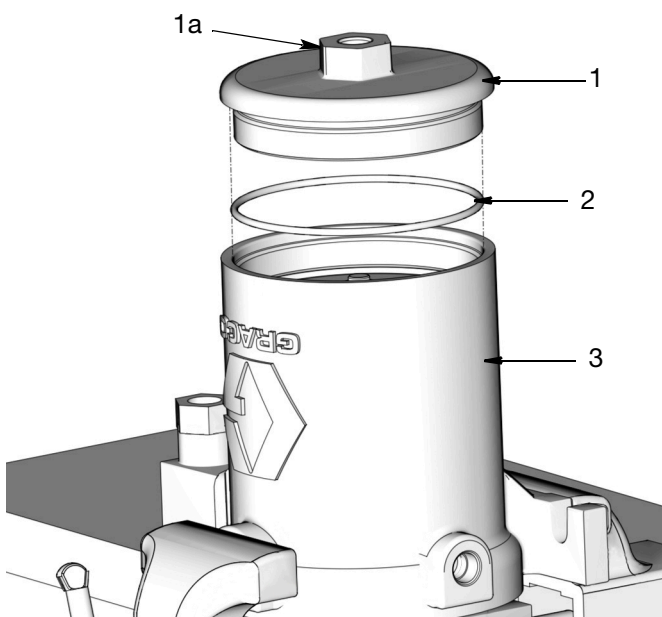

FIG. 35
10. Apply a thin layer of grease to the cover o-ring (2). Install the o-ring to cover (1) (FIG. 35).
11. Install the cover in bottom of air motor cylinder (3). Push on the top of the cover to seat it and compress the spring. Use a wrench on the nut (1a) to turn and tighten the cover securely, then torque to 28 to 32 ft. lbs. (37.9 to 43.4 N.m) (FIG. 35).